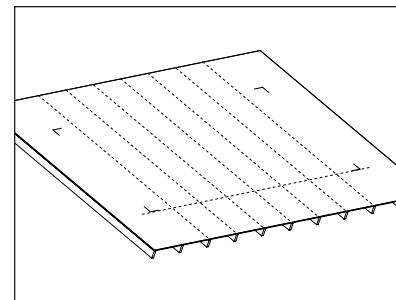

Figure 5.3C
4. Snap a chalk line across the lower edge of the array to establish the relative location of the lower edge of the array. (Figure 5.3C).